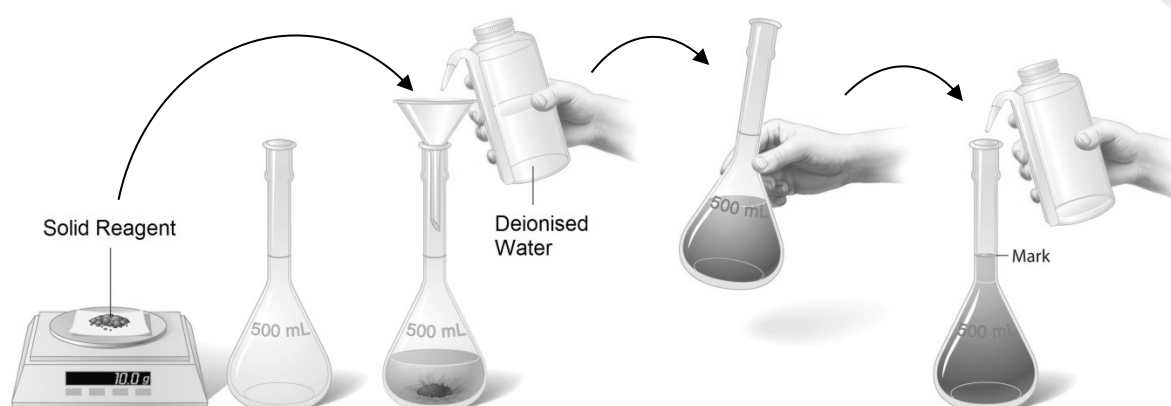

Figure 2.3: Making up a standard solution (Averill and Elderidge, 2007, General Chemistry, Ch 4.2).
- Quantitatively transfer the solid into a 25.00 mL volumetric flask using a short-stemmed funnel. Make sure all of the solid is transferred into the flask (see Figure 2.3).